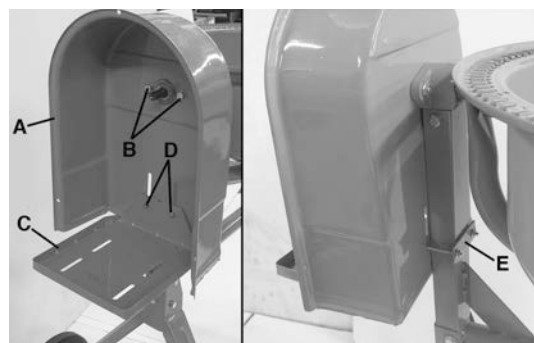

FIGURE 9
1. Install the motor housing (A) Fig.9 to the pinion shaft side of the support bracket using 2 short hex. bolts, washers, and spring washers (B).
2. Install the motor plate (C) Fig.9 to the motor housing (A) using 2 long thin hex. bolts, washers, flange hex. nuts (D) and fixing plate (E) as shown in Fig.9. Only hand tighten hardware since the motor plate will be adjusted up or down later.